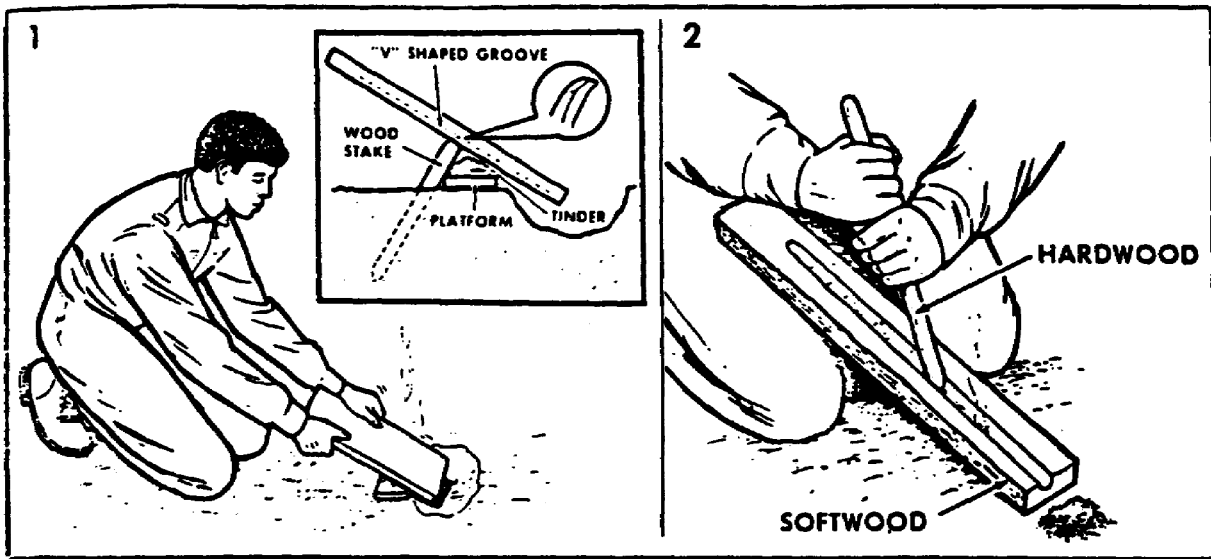

Figure 54. Fire plow.
(9) Ground stake. Another variation is the ground stake method. You can construct it by driving a stake into the ground (Figure 54, item 1).
(10) The plow. The plow method used by some primitives basically follows the principles of other friction methods (Figure 54, item 2). The wood used must not glaze when applying heat and must be able to produce powder with friction.
(11) Special equipment.